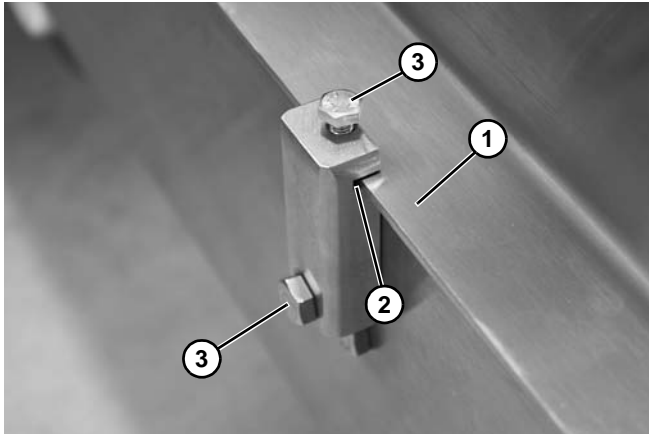

Figure 34
3. Install guide (Figure 34, item 1) into the slot (Figure 34, item 2) of the mounting block and tighten bolts (Figure 34, item 3).